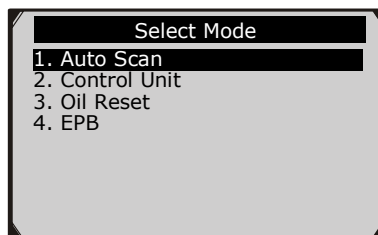
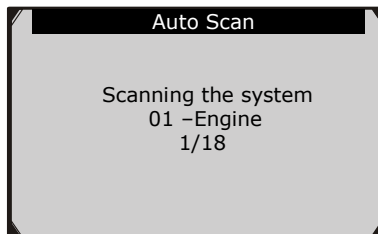
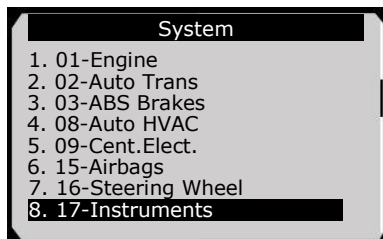

Figure 6.1
Figure 6.2
Figure 6.3
6. With the scan tool in **Select Mode** screen(Figure 6.1), use **UP/DOWN** scroll button to select **Auto Scan**, and press **OK** button. Wait for a few minutes until following screen shows as Figure 6.2. The screen continually changes according to the detecting system. Finally, it will display all detectable systems available in the vehicle as Figure 6.3.
❏ **NOTE:** The screen will display an estimated number of the detectable systems of the vehicle (eg.18 in the 1/18 of Figure 6.2) according to ECU response at first, but the number of the systems displaying in the **System** screen may be less than the primary estimated number due to various vehicle configuration or vehicle modification.